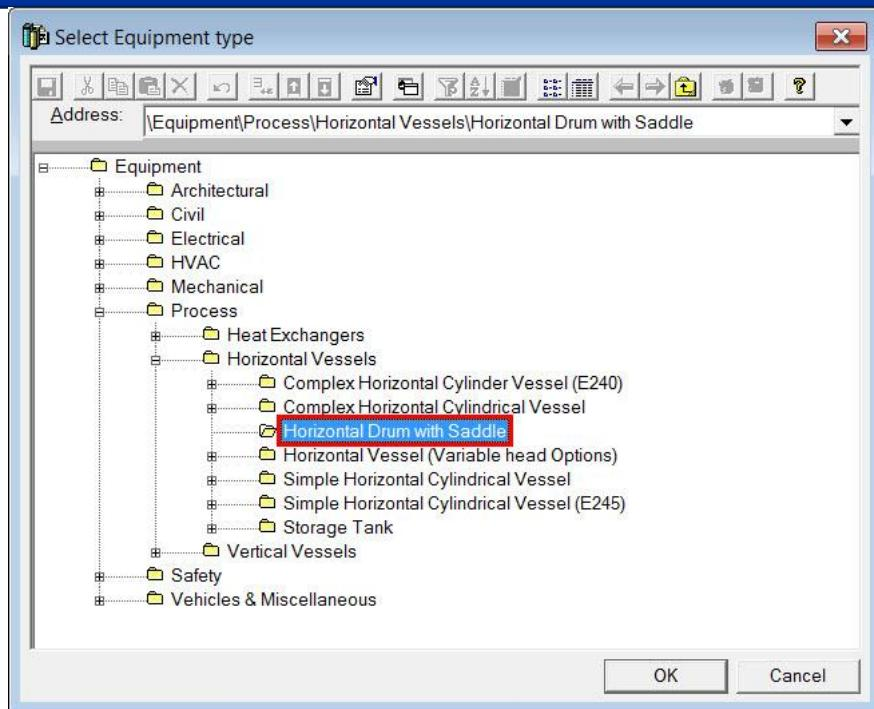

Figure 6. 5: Select Equipment Type Dialog Box
22. Key in the following specifications on the **Standard Category** in the **Design Equipment Properties** dialog box as shown in Figure 6. 6.